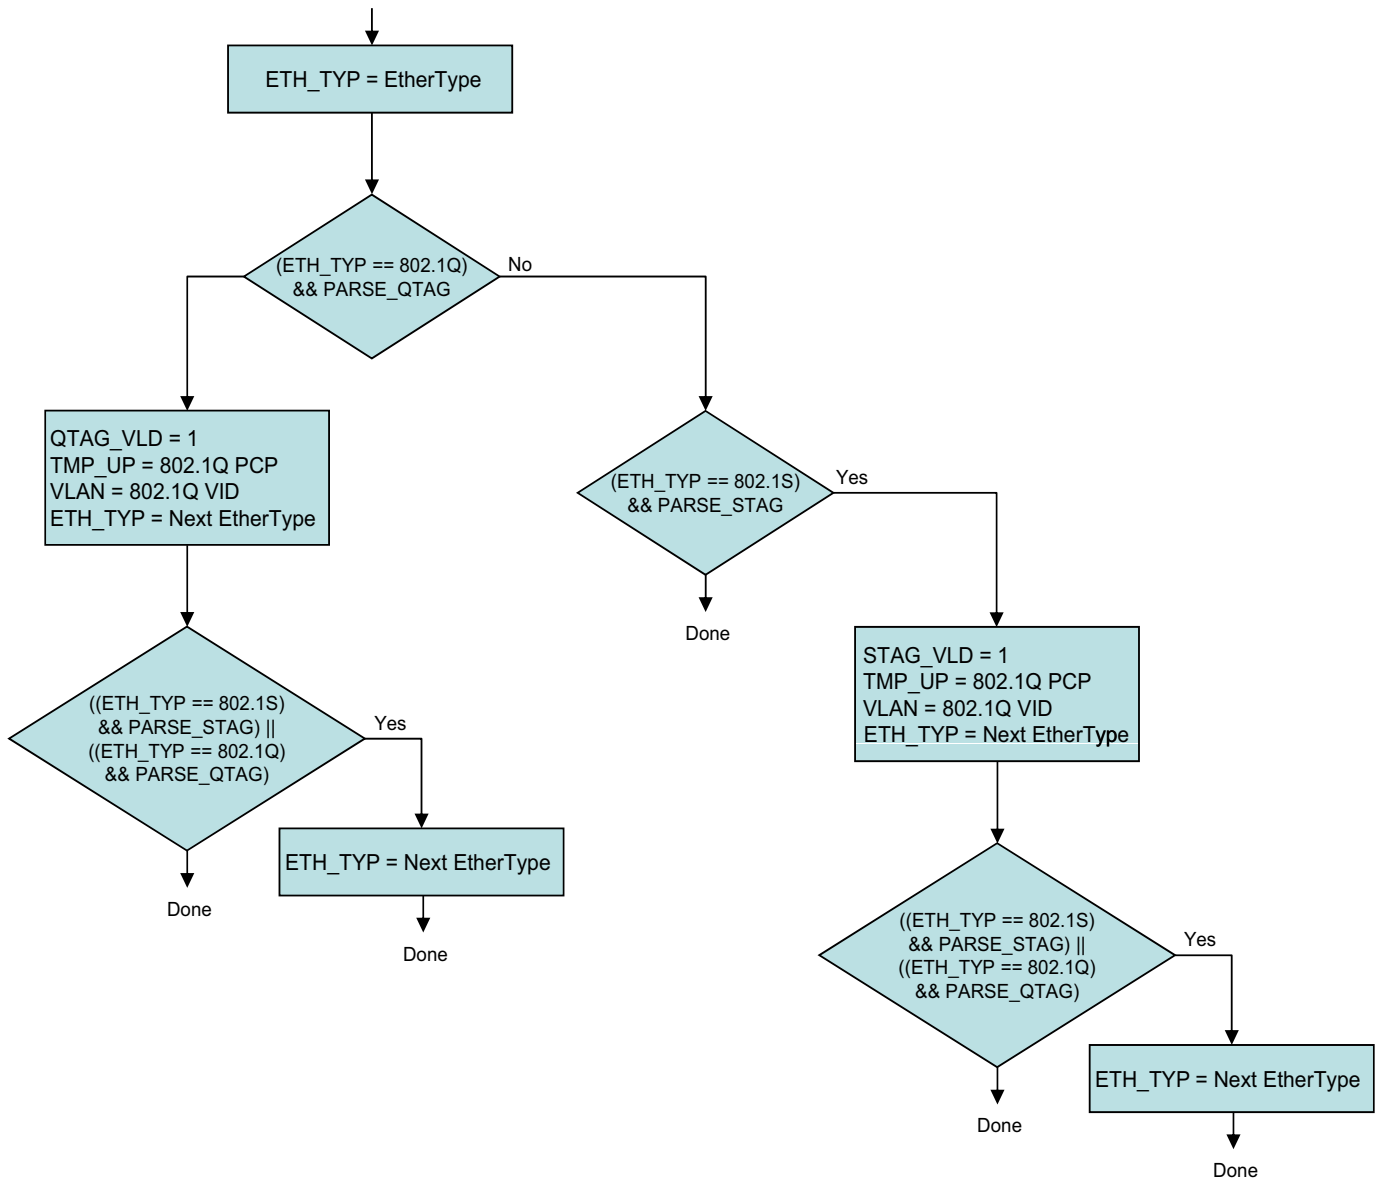

Figure 1.3 EtherType and VLAN Parsing Algorithm
b) EtherType and VLAN resolution is determined, as shown in Figure 1.3 on page 28.